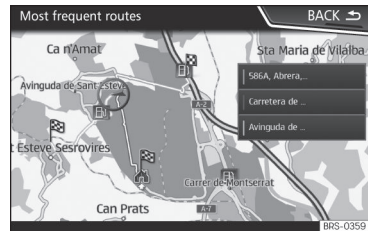

Fig. 229 Predictive navigation
- On the main screen of the Navigation menu, in the pop-up window, press the **Frequent routes** button. To display frequently followed routes press the **Show on map** button **>>> Fig. 229**.